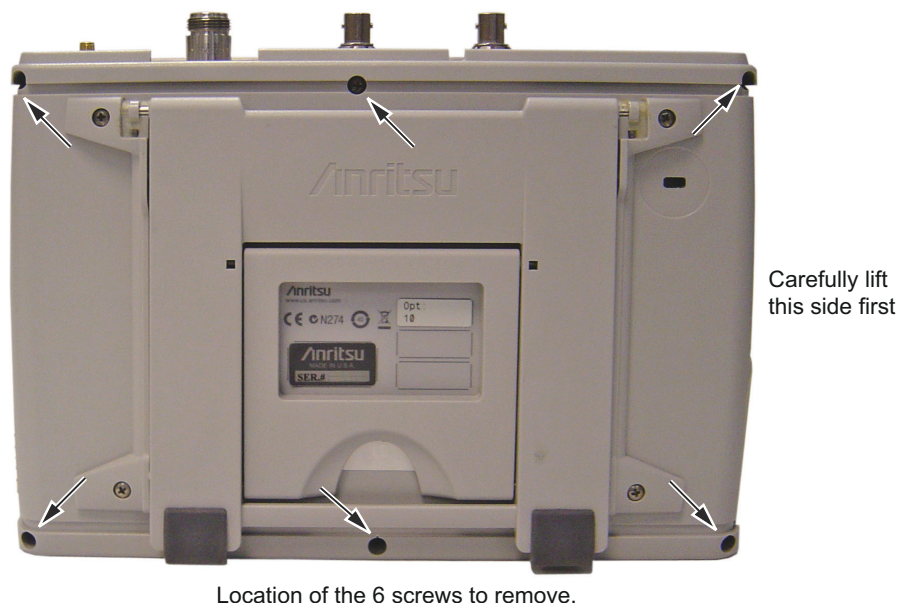

Figure 6-2. Remove the Four Screws
4. Use a Phillips screwdriver to remove the six screws securing the two halves of the Site Master case together (Figure 6-2).